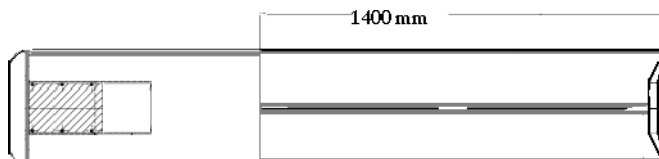

Figure 1-28 Place level along the length of the cradle
- 5.) Place the level in the center of the cradle and check for level (see Figure 1-28). The width and the length of the cradle must be level when finished. Re-tighten all adjuster lock rings.
- 1.) Extend the cradle into the gantry 1400 mm (see Figure 1-28, on page 43).